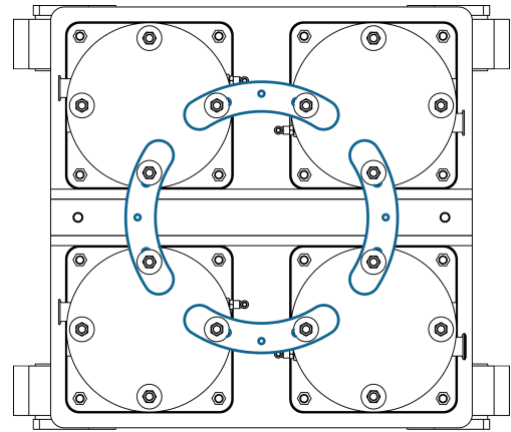
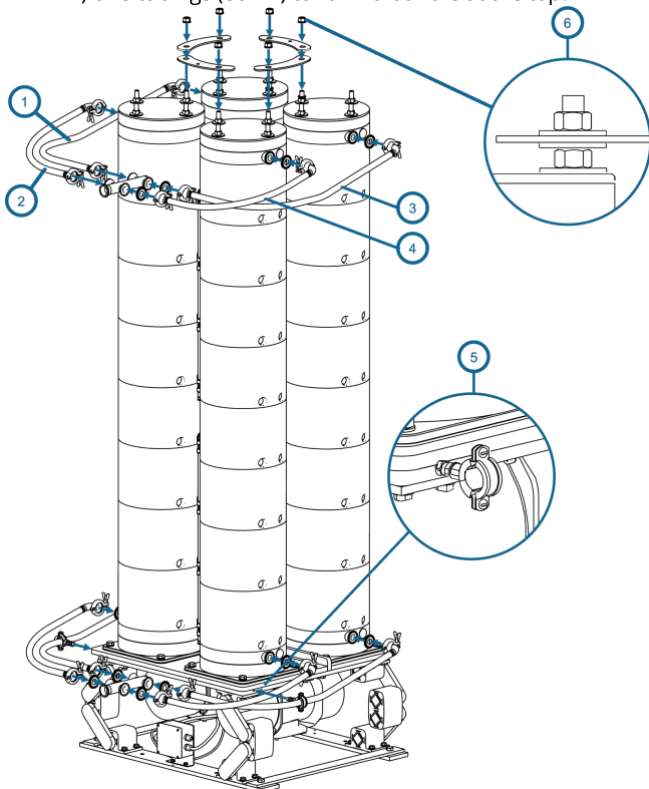

Figure 1
Figure 2
1. Position the 4 locking brackets between the cartridges over the central rods to lock the position of the four cartridges, see Figure 1. Use a washer below and above each bracket (see Figure 2, detail 6).
3. Install two hose supports to the side of the Vibro-I Drive Base plate (Figure 2, detail 5)
4. Attach the feed and retentate hoses as shown in Figure 2 (1: 1200 mm, 2: 800 mm, 3: 1100 mm, 4: 725 mm), using a gasket and a tri-clamp.
5. Place the two long feed hoses in the hose clamps (Figure 2, detail 5).